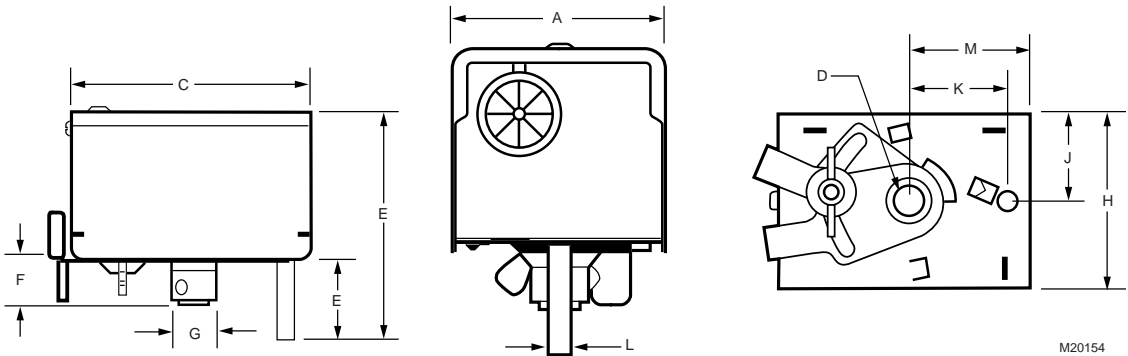

Fig. 1. Motor dimensions in in. (mm).
* Nominal Device Dimensions (see Fig. 1.).
Motor Dimensions: See Fig. 1.